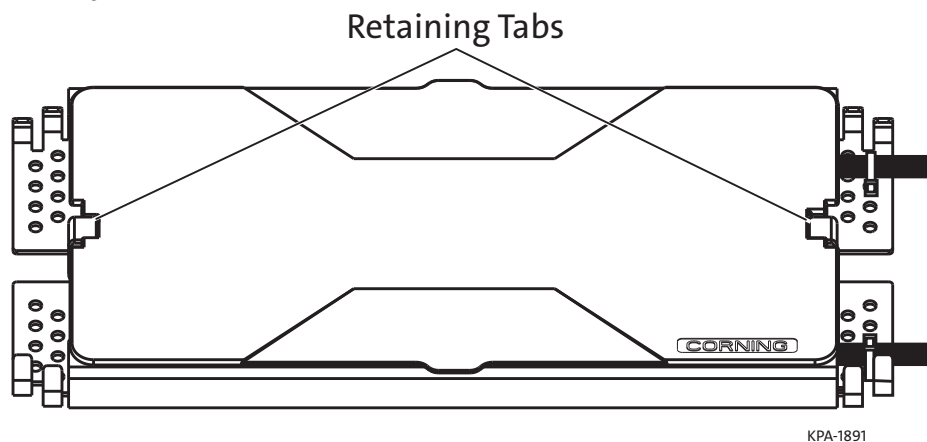

Figure 16
- If your tray has a clear plastic cover, flex the cover as shown in Figure 1 and insert the ends under the retaining tabs at each end of the splice tray (Figure 16). Allow the middle of the cover to relax onto the tray.